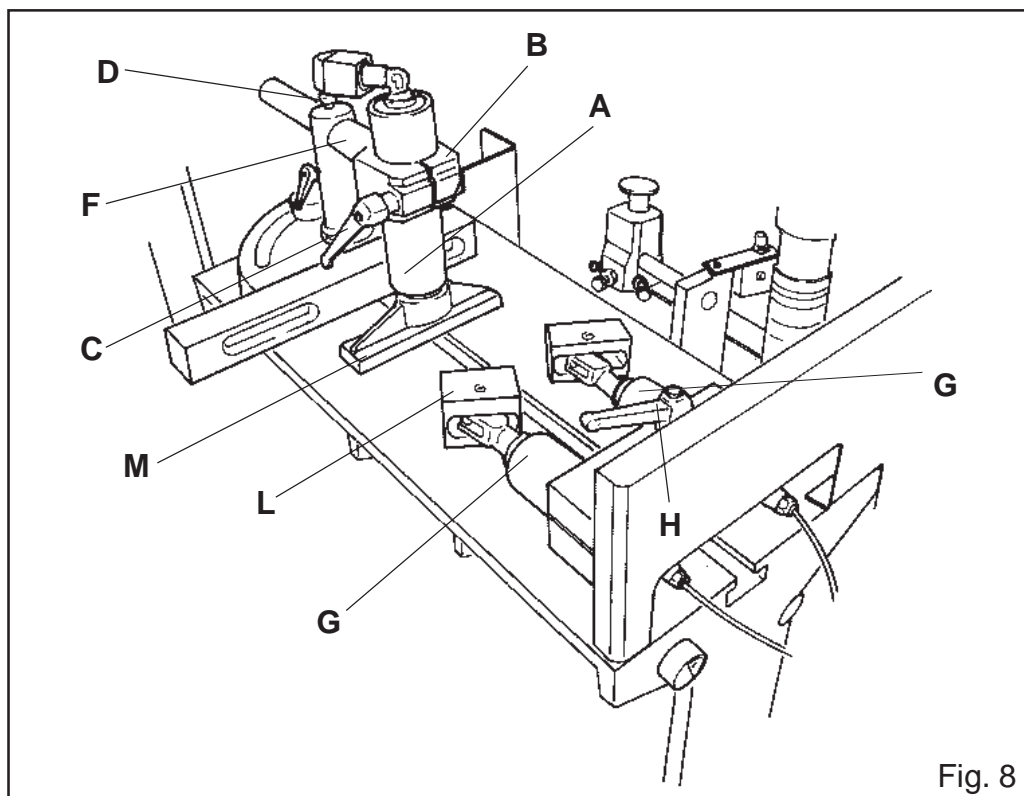

Fig. 8
The machine is equipped with one vertical clamp A ( Fig.8) and two horizontal clamps G ( Fig.8).
#### **ADJUSTMENT OF THE HORIZONTALS CLAMPS G (Fig.8)**
- Loosen release lever H (Fig.8)
- Move clamp G (Fig.8) forward or backward to draw stirrup L (Fig.8) near to profile as much as possible
- Block release lever H (Fig.8)
#### **ADJUSTMENT OF THE VERTICAL CLAMP A (Fig.8)**
- Loosen release lever D (Fig.8)
- Move support F (Fig.8) forward or backward to draw stirrup M (Fig.8) near to profile as much as possible
- Block release lever D (Fig.8).
- Loosen release lever C (Fig.8) of support B (Fig.8) for piston A (Fig.8)
- Lift up or pull down piston A (Fig.8) to draw stirrup M (Fig.8) near to profile as much as possible.
- Block release lever C ( Fig.8)